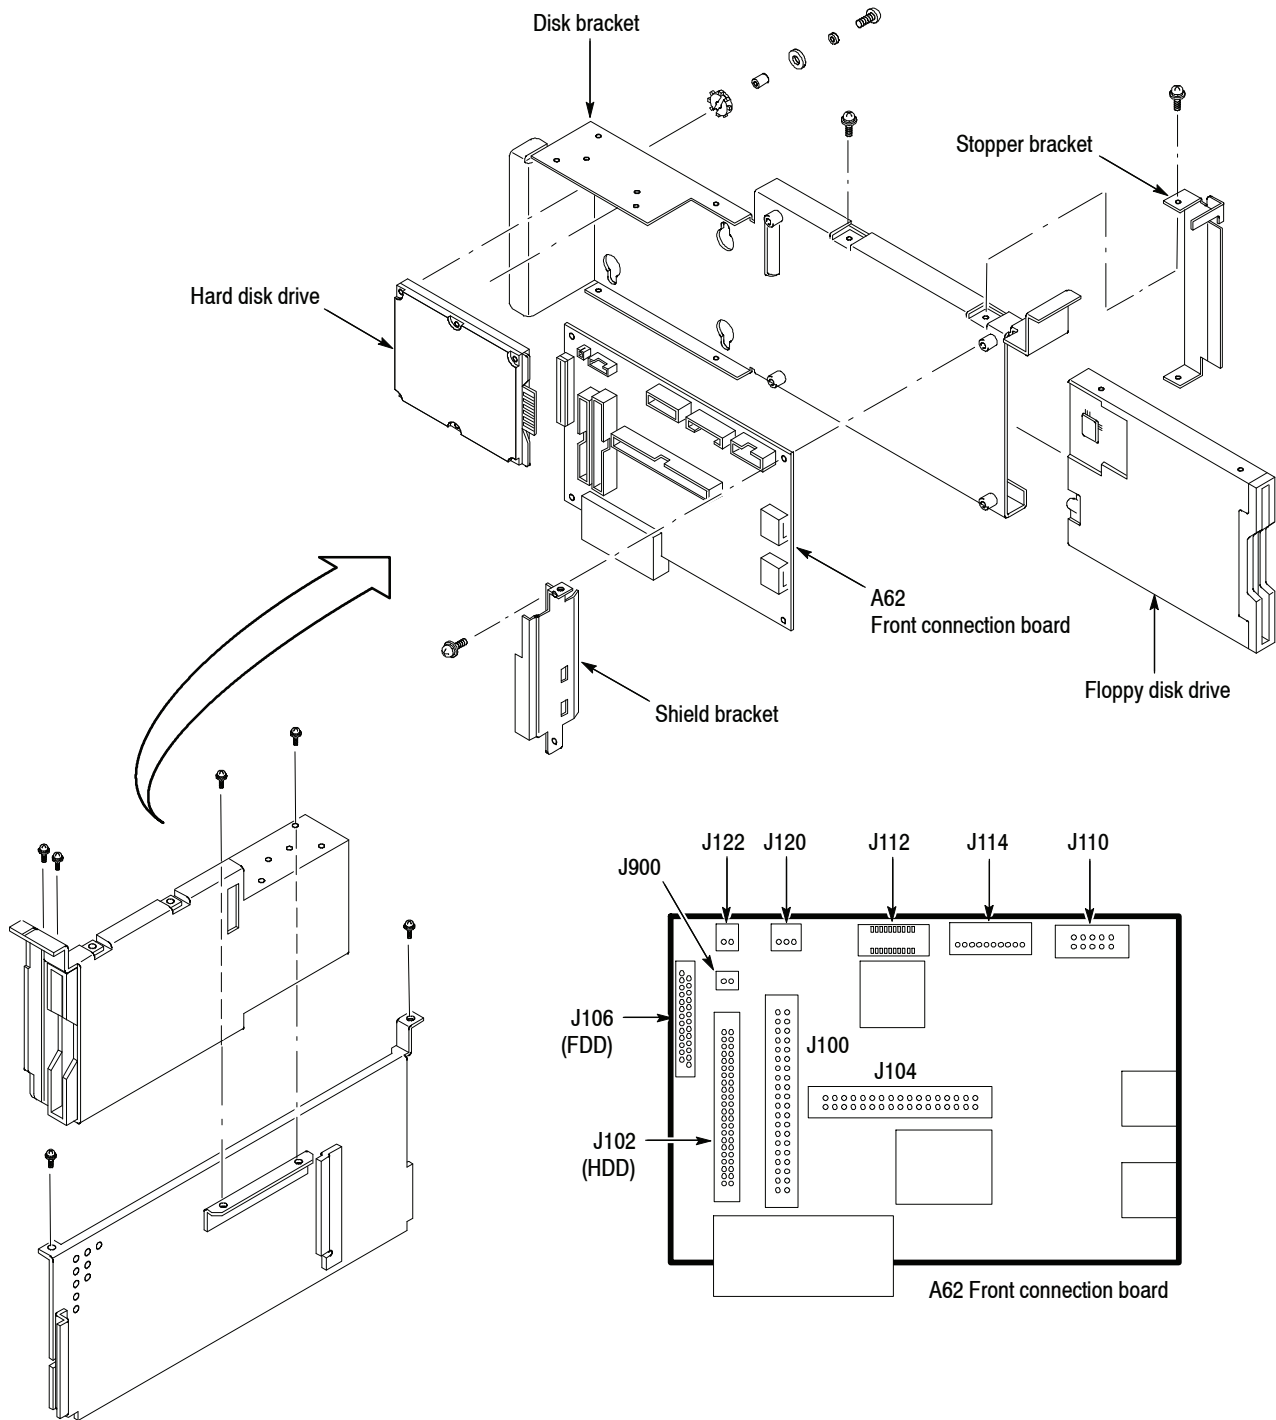

Figure 6-17: Disk module removal
**3. Orient the analyzer:** Set the analyzer so its bottom is down on the work surface and its left side is facing you.**4. Remove the disk bracket:** See Figure 6-17.
3. *Remove the floppy disk drive:* See Figure 6-17.
3. *Remove the A62 Front connection board:* See Figure 6-17.
- a. Unplug the hard disk cable assembly from the IDE1 connector on the CPU board and J900 on the A62 Front connection board. See Figure 6-16 on page 6-32 and Figure 6-17 on page 6-34 for the connector location.